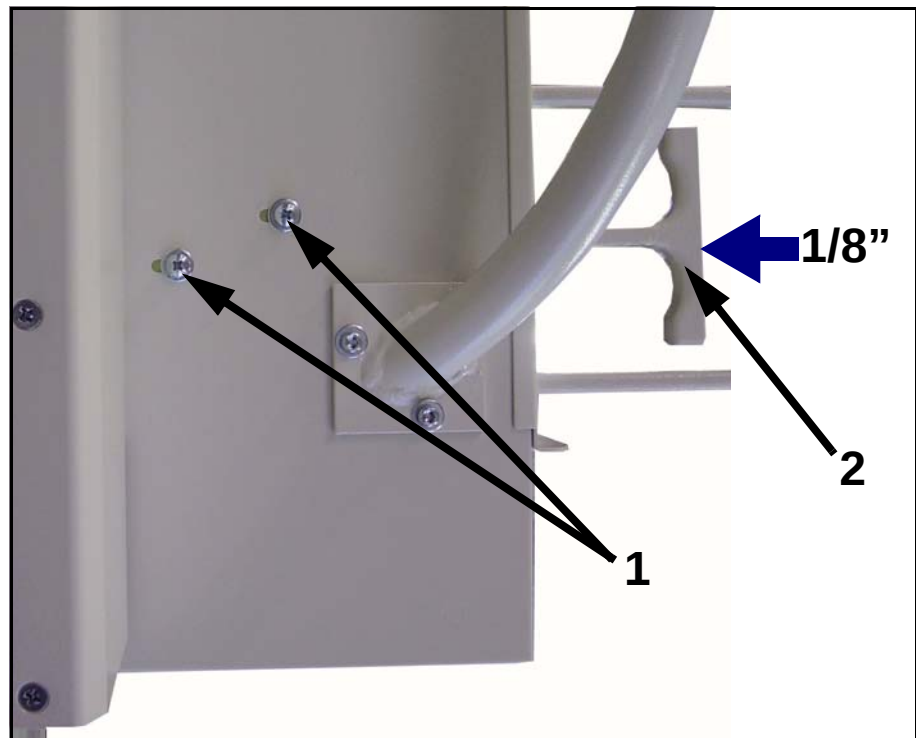

Figure 5-1. Brake Assembly Adjustment Screws
- 1 Loosen the two brake assembly screws (1 in Figure 5-1) one full turn.
- 2 Push release brake handle (2) no more than 1/8". This will tighten the brake cams.
- 3 Retighten screws (1).